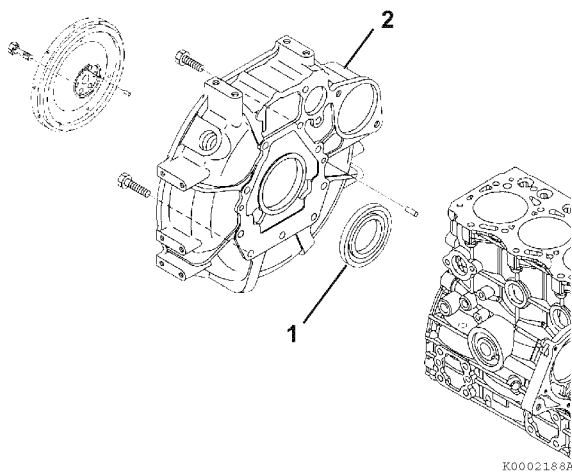

Figure 6-64
4. Remove the rear oil seal (**Figure 6-64, (1)**) from the flywheel housing (**Figure 6-64, (2)**).
5. Apply a continuous bead of ThreeBond Liquid Gasket No. 1212F, YANMAR Part No. 977770-1212F to the outside diameter of a new oil seal (**Figure 6-64, (1)**).
6. Install a new seal in the flywheel housing (**Figure 6-64, (2)**) with the lip facing in away from the flywheel. Apply lithium grease to the lip of the seal.